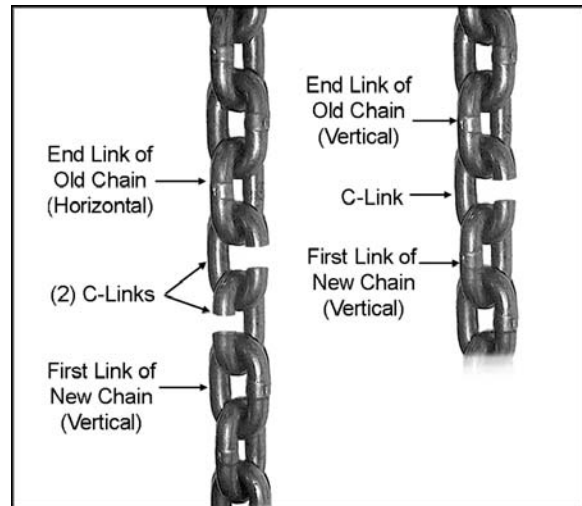

Figure 19
4. Using a C-link(s), connect the new chain to the old chain. If the end link of the old chain is horizontal, use two C-links. If the end link of the old chain is vertical, use one C-link See Figure 19. Using the correct number of C-links will properly orient the chain, and ensure that the first link on the load side end is a vertical link.